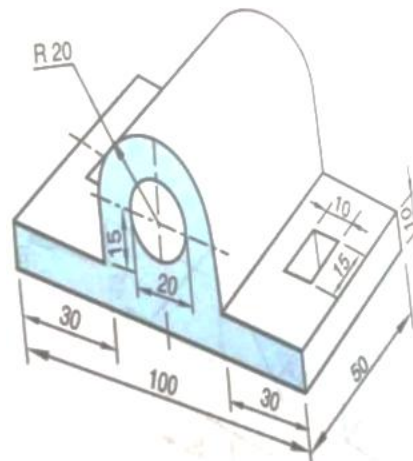

Fig.10.4
4. Draw the front view, side view and top view for the below Fig.10.4.